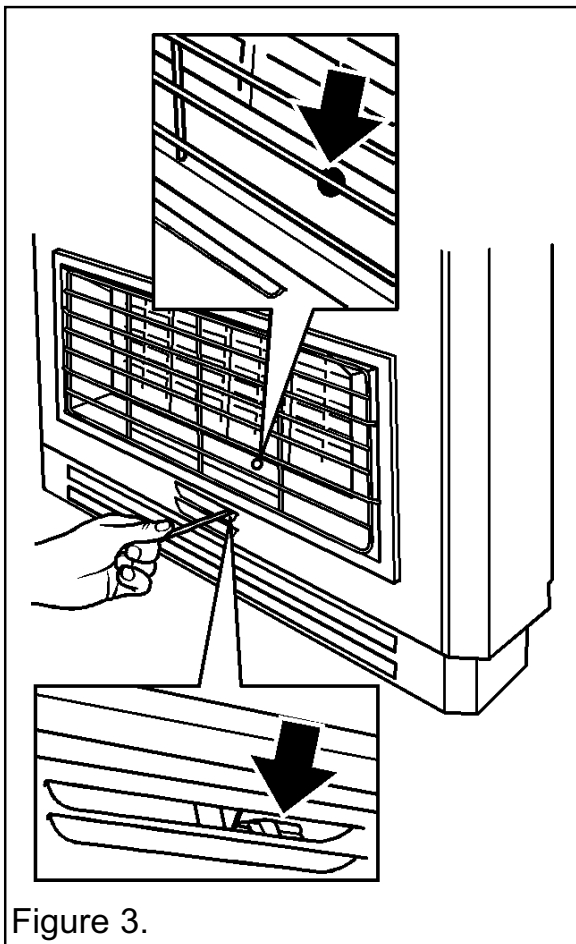

Figure 3.
1. Slide the control button to the ignition / low ( L) position. In this position, the electronic ignition system should cause a series of sparks that should light the pilot. The pilot flame can be seen through a hole immediately in front of the centre radiants (See the upper section of figure 3). Within four seconds of the pilot igniting, the two centre radiants should light.
(See figure 3).
position (↙ L). While keeping the knob depressed, light the pilot by inserting a long match or taper into the opening shown in figure 3 (The upper slot of the two).